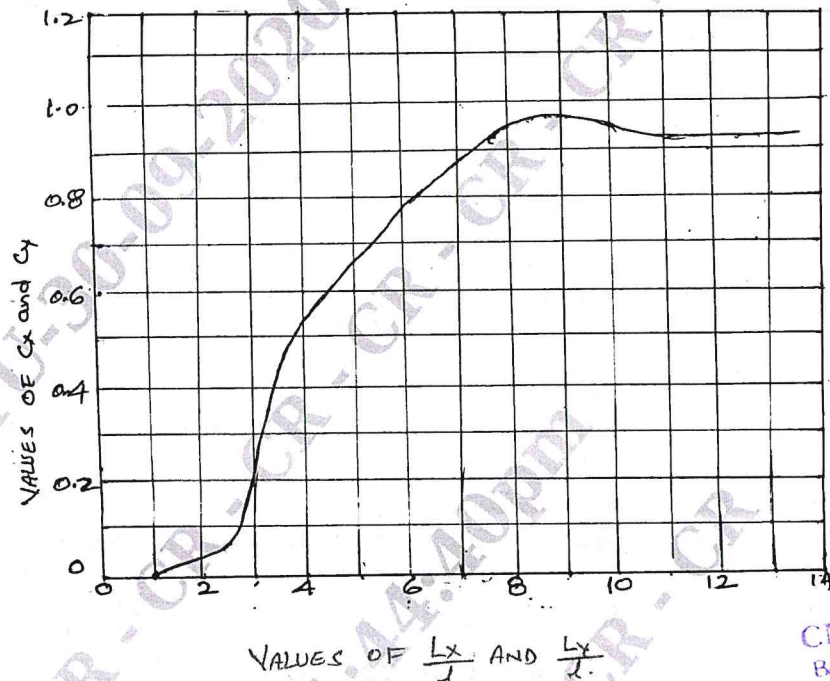

Fig.Q6(a) Warping Stress coefficient chart (By Bradury)
- 6 a. Determine the Warping stresses at Interior , Edge and Corner Region in a 25cm thick concrete pavement with Transverse Joints at 5.0m Interval and Longitudinal Joints at 3.6m interval. The modulus of sub grade reaction K is 6.9 kg/cm^3 and Radius of loaded area is 15cms. Assume maximum temperature differential during day to be 0.6°C per cm. Slab thickness and minimum temperature differential of 0.4°C per cm. Slab thickness during the night, Additional datas are $e = 10 \times 10^{-6}$ per $^\circ\text{C}$, $E = 3 \times 10^5 \text{ kg/cm}^2$, $\mu = 0.5$. Use the chart in fig.Q6(a).